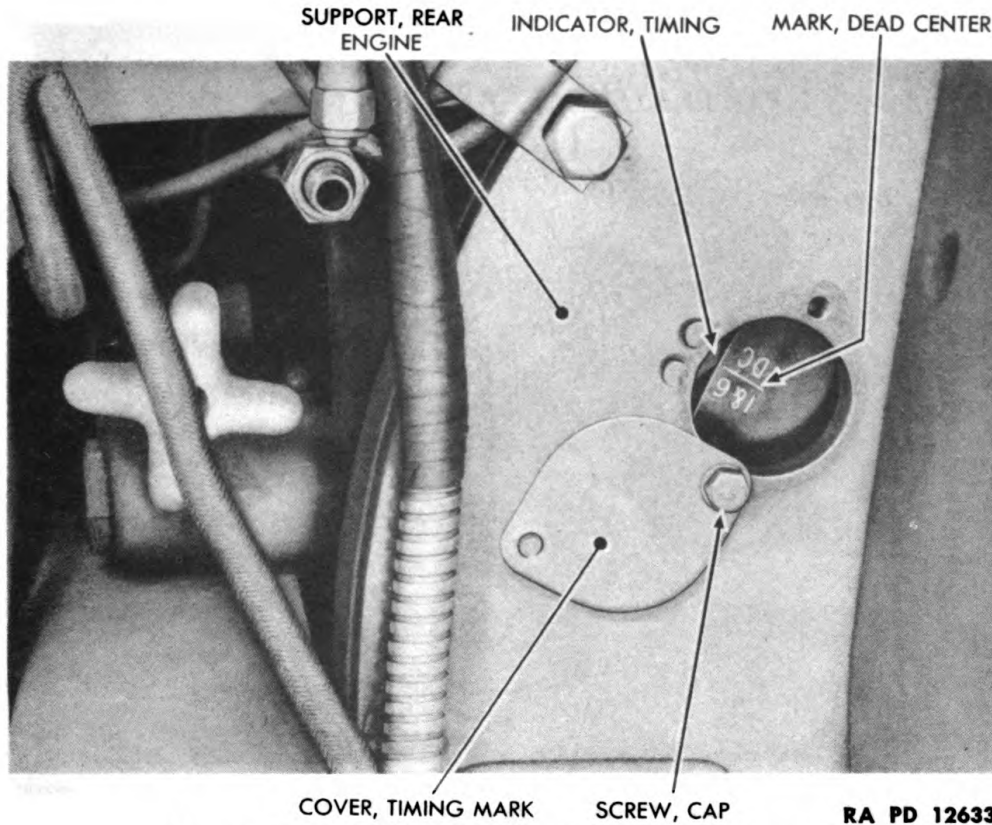

Figure 190—Checking Dead Center on Flywheel
(1) POSITION NO. 1 CYLINDER ON TOP DEAD CENTER COMPRESSION STROKE (fig. 190).